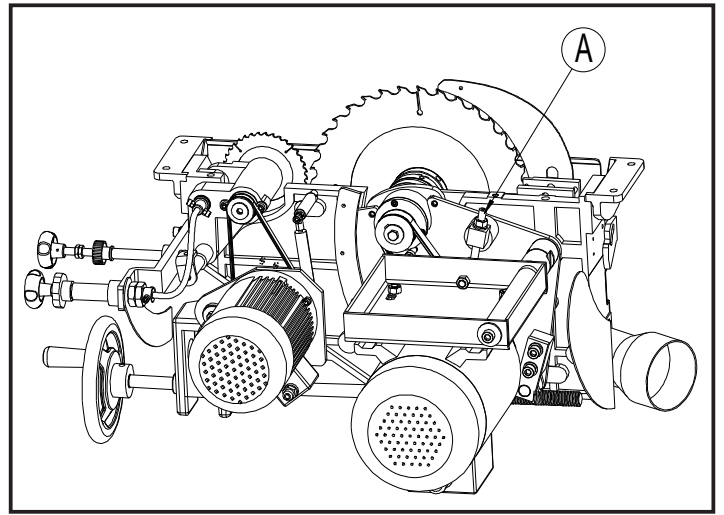

Fig.7.2
-Open right side plate with 4mm allen wrench, then rotate the screw rod at A of figure 7.2 with 6mm allen wrench.